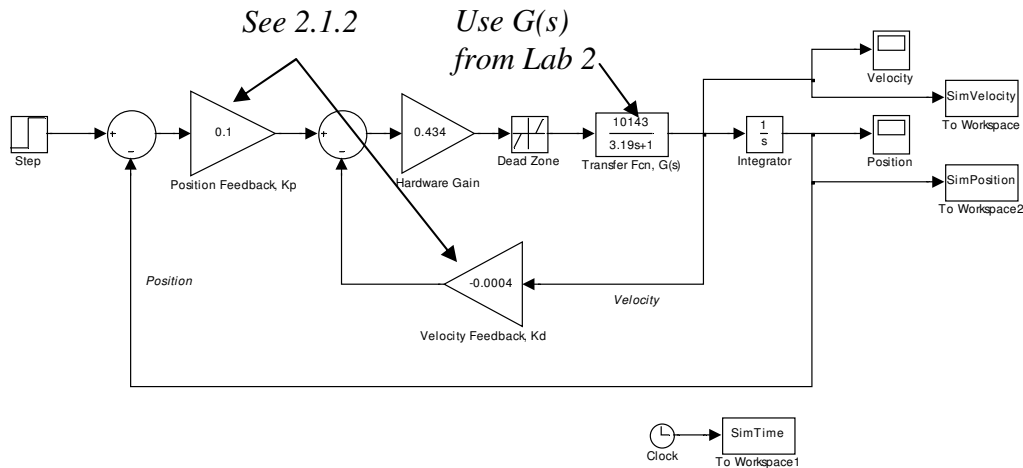

Figure 1. Simulink model of torsion control plant
2.1.1 Construct the Simulink model as shown in Figure 1. Use the values for K_m and τ_m that were computed in Lab 2. For the Dead Zone block, enter the dead zone voltage, V_{DZ} determined from Lab 2. Assume the Dead Zone is symmetrical, and enter V_{DZ} as a positive and negative value in the Dead Zone dialog window. The Hardware Gain of 0.434 is a constant for all stations and is a property of the ECP hardware and software.[†]